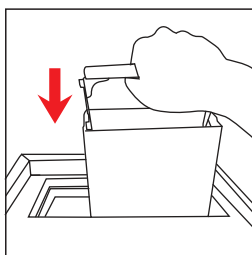

Figure 2
3. Put the water tank back into the machine. (Figure 2)